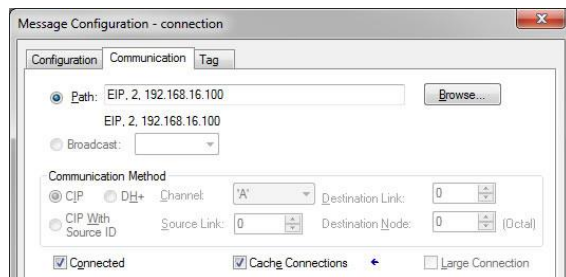

Figure 45: Setting the Communication Path
- d) “Communication” tab settings (refer to Figure 45):